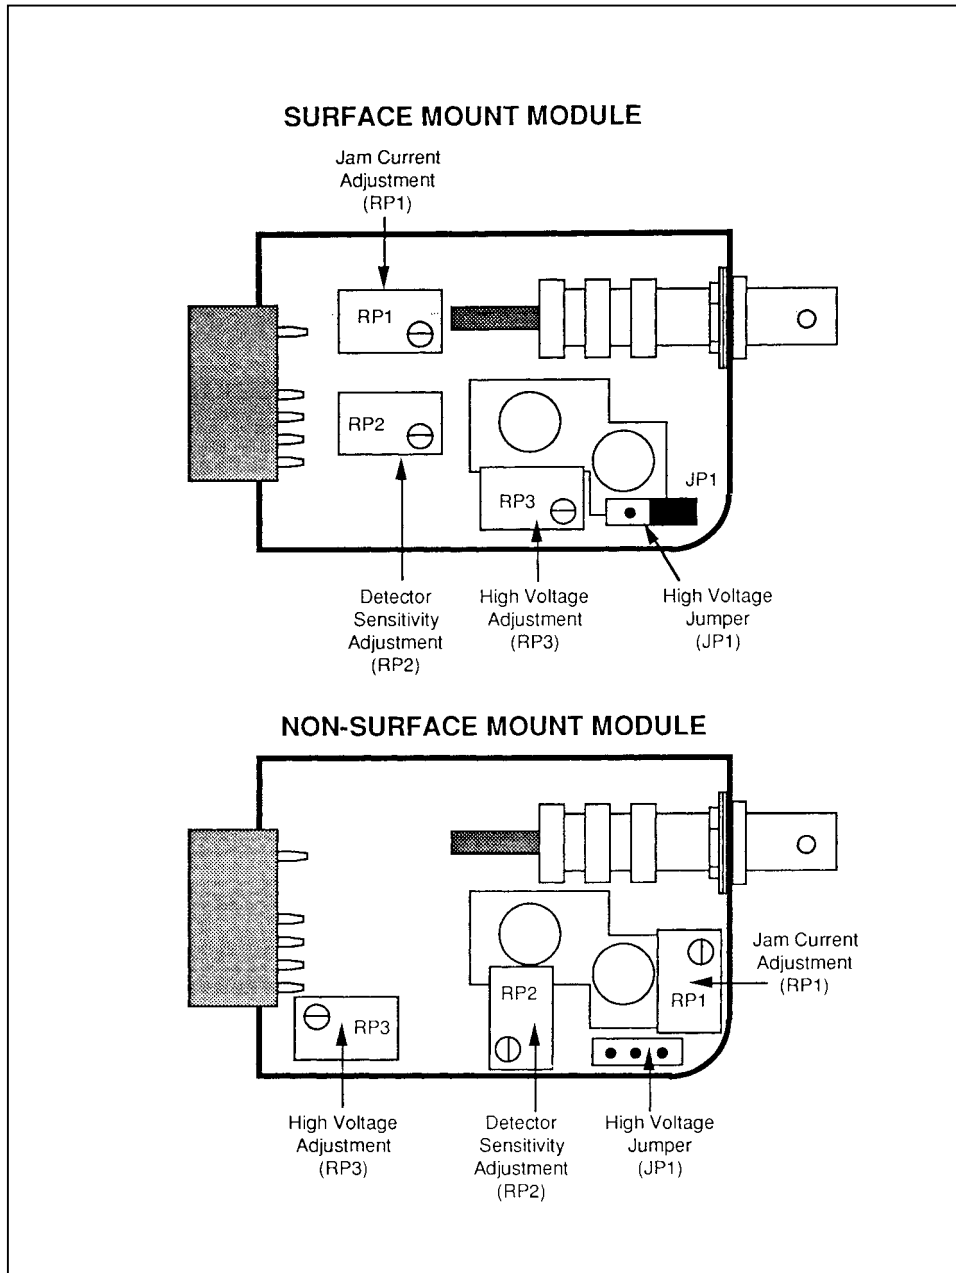

Figure 3-5. Probe Adapter Adjustments
Refer to Figure 3-5 for location of the high voltage adjustment (RP3). Use the following procedure to adjust the detector high voltage:
2. Locate the 3-pin jumper connector JP1 (refer to Figure 3-5 for jumper location).
Refer to Figure 3-5 for location of the detector sensitivity adjustment (RP2). The adjustment is factory set to 80 mV. If necessary, use a variable amplitude pulse fail generator and turn RP2 counterclockwise to increase sensitivity.
Refer to Figure 3-5 for location of the jam current adjustment (RP1). Use the following procedure to adjust the jam current: